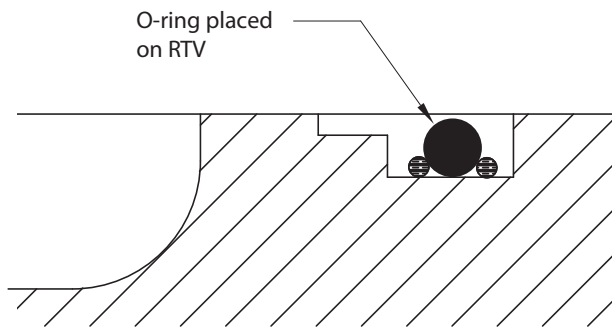
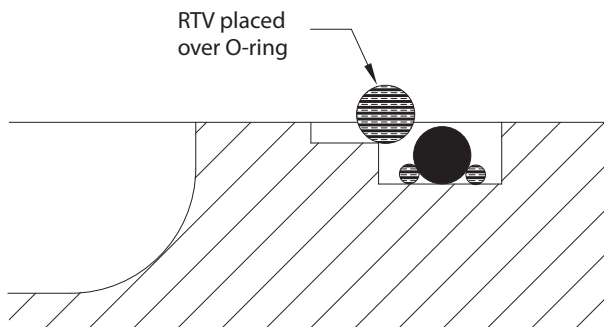

Figure 13
Figure 14
4.5.6.4 Install the O-rings (I.D. and O.D.) on top of the sealant, working them into position so that they lay flat in the bottom of the groove. See Figure 13. A second bead of sealant 0.060" - 0.090" (1,5 mm - 2,3 mm) in size should then be applied in the shallow groove. See Figure 14.